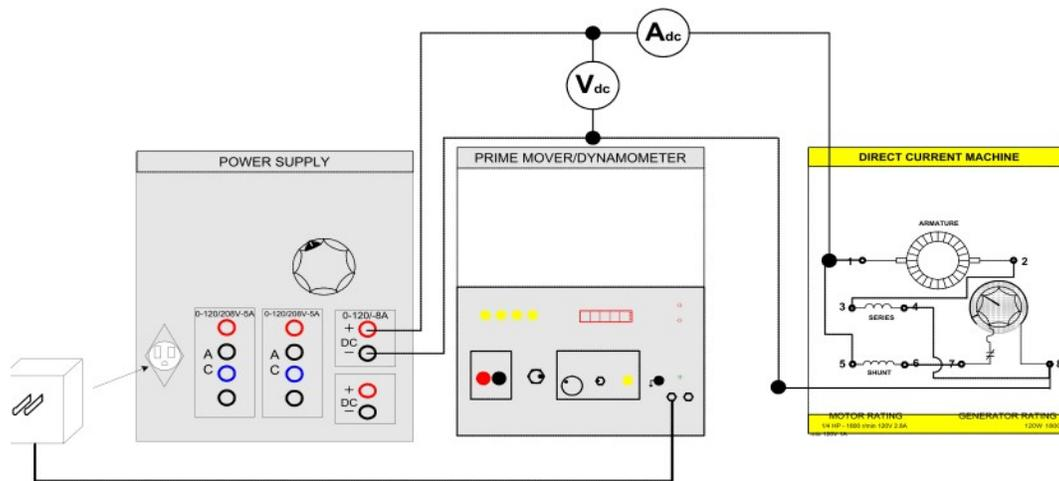

FIGURE 11.13
- Step 4: Connect the shunt field, in series with the rheostat, to terminals 1 and 4 as shown in Figure 11.13.